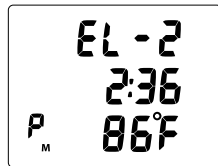

Fig. 44 - SURF ALT 2
**SURF ALT 2**, information includes (Fig. 44):